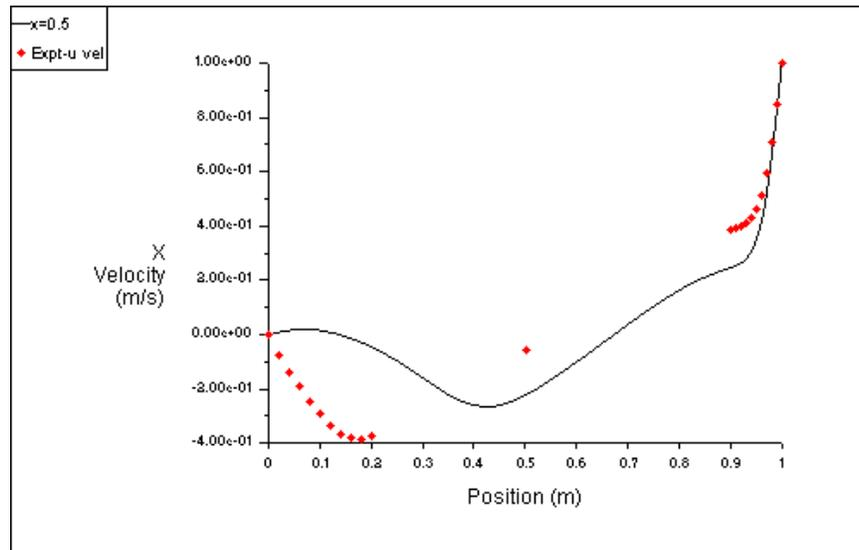

Figure 1.4: Calculated Vs. Experimental Data for X-velocity on $x=0.5$
7. Create a plot of X velocity (Figure 1.4).